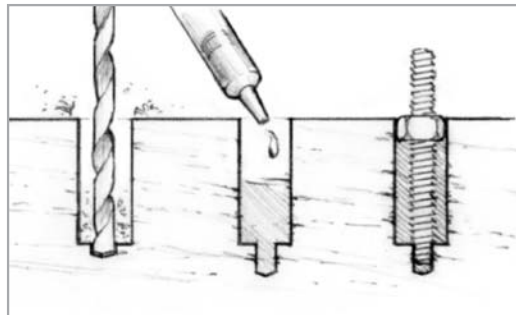

Figure 6-4 Bond threaded rods or studs into the substrate as an alternative for easily removable hardware.
2. Place a nut and washer on the studs, wet out the lower ends and push them into the epoxy filled holes. Allow the epoxy to cure thoroughly before tightening the nuts (*Figure 6-4*).